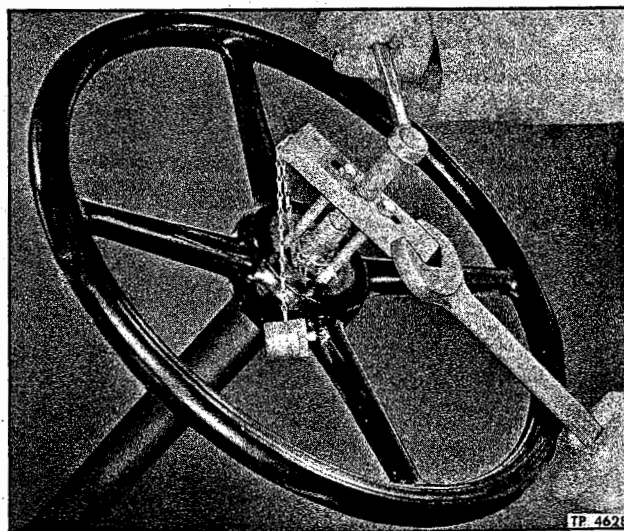

Figure 3—Steering Wheel Removal
1. Remove three horn button retaining screws (6) attaching button retainer to steering wheel. Lift retainer (2), insulator gasket (1), horn button (4), plate (5), and spring (3) from steering wheel, then lift connector, sleeve and brush assembly (7) out of wheel.
2. Remove steering wheel retaining nut (40). Use suitable steering wheel puller in manner typically illustrated in figure 3, pull steering wheel from upper shaft.